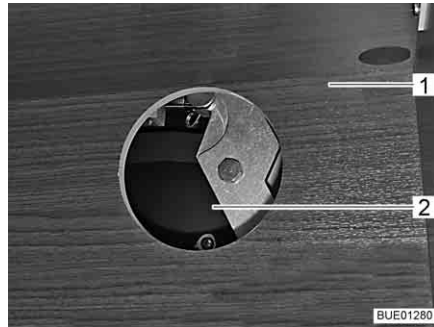

Fig. 109 Access to drive
- Depending on the model, open the flap of the wall-mounted cupboard (Fig. 109,1) and remove the cover from the access port (Fig. 109,2).